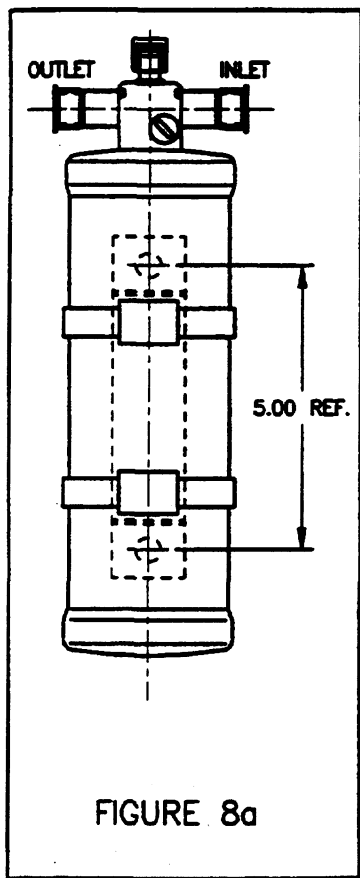

FIGURE 8a
E. RECEIVER/DRYER INSTALLATION FOR ALL MODELS (See Figures 8A and 8B.)
- 1) Position the receiver/drier in the mounting bracket and tighten the bracket clamps securing the rec./drier in the mount as shown in Figure 8a.
- 3) Mount rec./drier to mounting holes on left wall of condenser compartment using (2) M8 x 20mm long screws, washers, and lock washers.